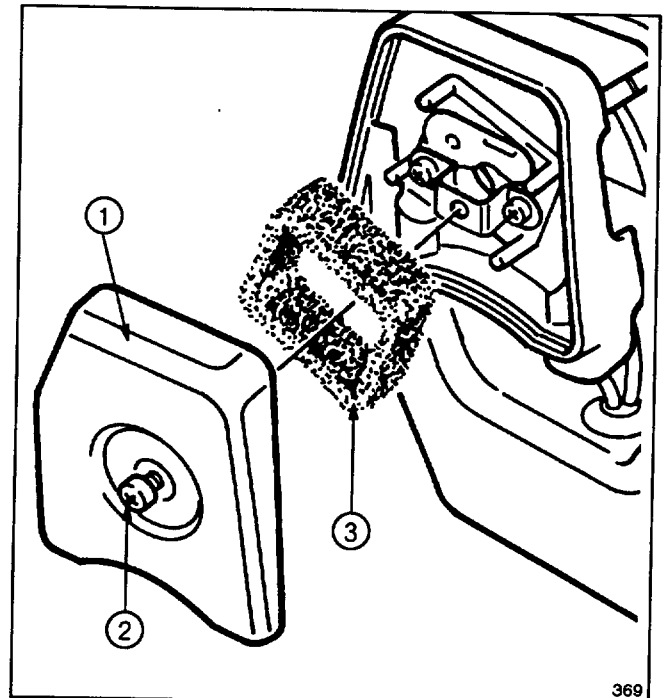

Figure 18
## SERVICING AIR CLEANER (Fig. 18)
5. Reinstall air cleaner components as shown in Figure 18.